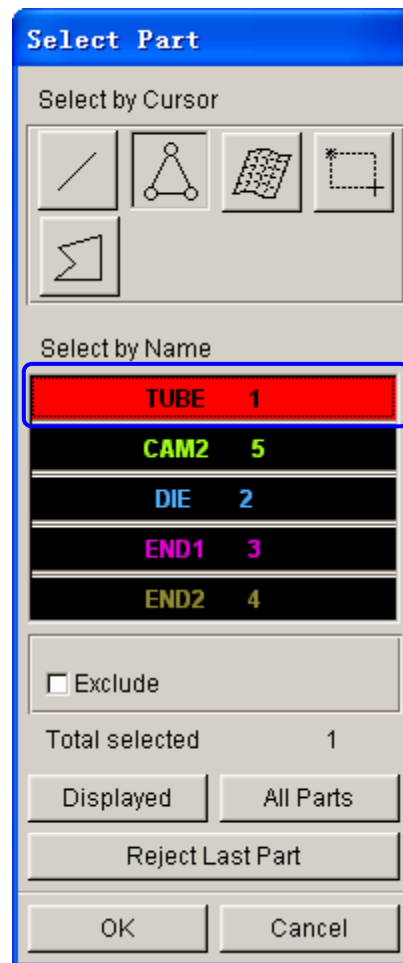

Figure 3.9 Select part dialog box
4. Click **Add Part...** button. Use your mouse cursor to select **TUBE** part from the **SELECT PART** dialog box illustrated in Figure 3.9.